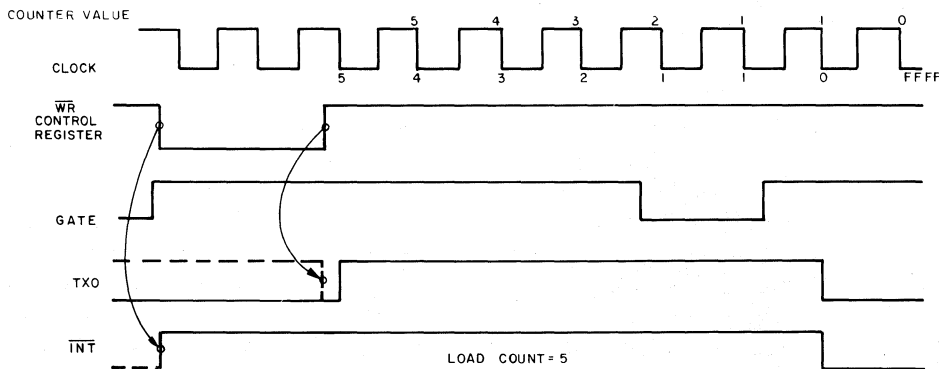

Fig. 2 - Timeout (mode 1) timing waveforms.
**Bits 0, 1 and 2 — Mode Selects—See Mode Timing Diagrams (Figs. 2, 3, 4, 5 and 6).**